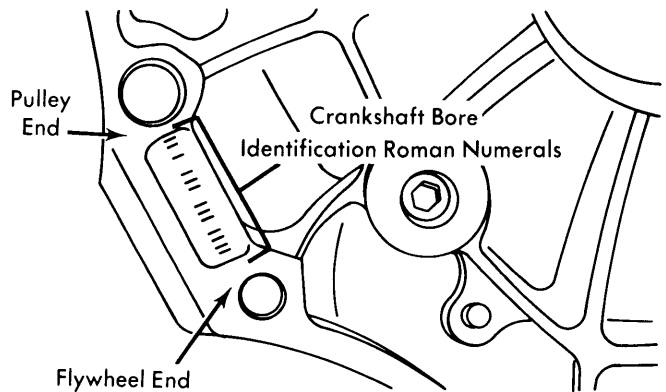
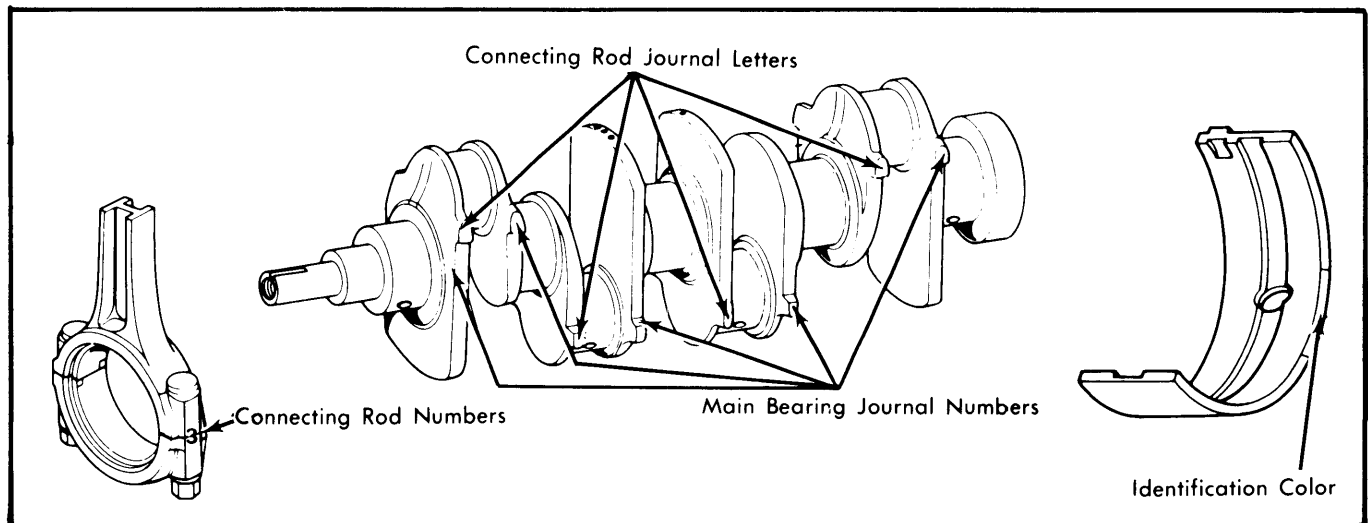

Fig. 3 Crankshaft Identification Locations (All Engines)
Fig. 4 Connecting Rod, Bearing, & Block Identification Locations
4) Referring to Fig. 3 and Fig. 4, note that all letters stamped on crankshaft counterweight pads apply to connecting rod journal nearest letter. All numbers stamped on crankshaft apply to nearest main bearing journal. Connecting rod caps have numbers stamped on cap and cylinder block has Roman numerals stamped on pad at flywheel end of block.